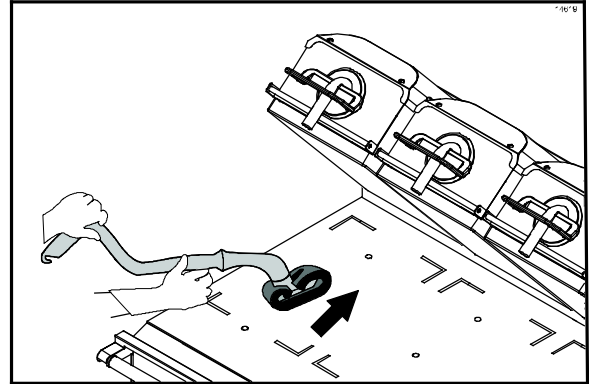

Figure 48
15. Spread a light coating of the grill cleaner over the entire lower grill surface, using front to back strokes. Allow the product to remain on the grill while spreading across all surfaces. (See Figure 48.)